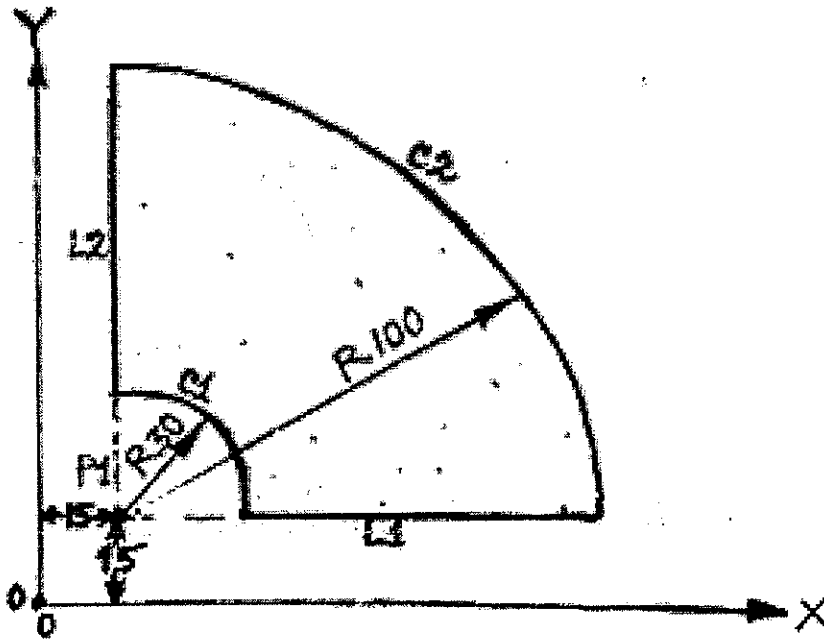

Fig 4
- b) Write a program in APT language for milling the edges of a job shown in fig. 4 using an End Mill cutter in a CNC milling machine 12